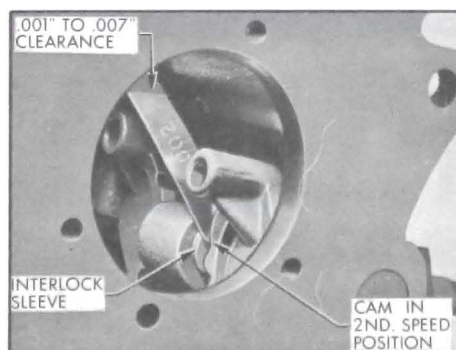

Figure 4-29—Checking Interlock Sleeve End Clearance
NOTE: It is not necessary to remove shift lever and interlock assemblies unless the interlock does not function properly and repairs are to be made to these assemblies. Badly worn parts will cause too much interlock sleeve end clearance. See Figure 4-29.
7. Shift second-third shift lever into second speed position. With one end of interlock sleeve against first-reverse cam, the clearance between sleeve and second-third cam should be .001" - .007". See Figure 4-29. If clearance is greater than specified, and if it seems possible that transmission can be forced into two gears at once, old interlock sleeve should be measured with a micrometer and replaced with a new longer sleeve. Sleeves are available in five lengths: 1.287", 1.291", 1.295", 1.299" and 1.303".